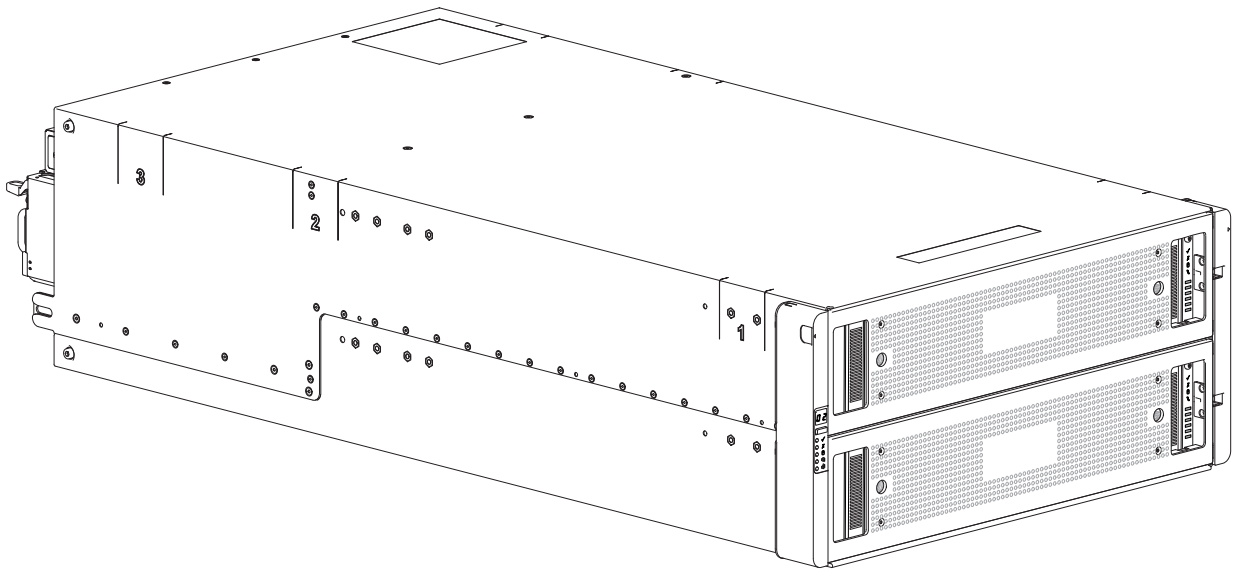
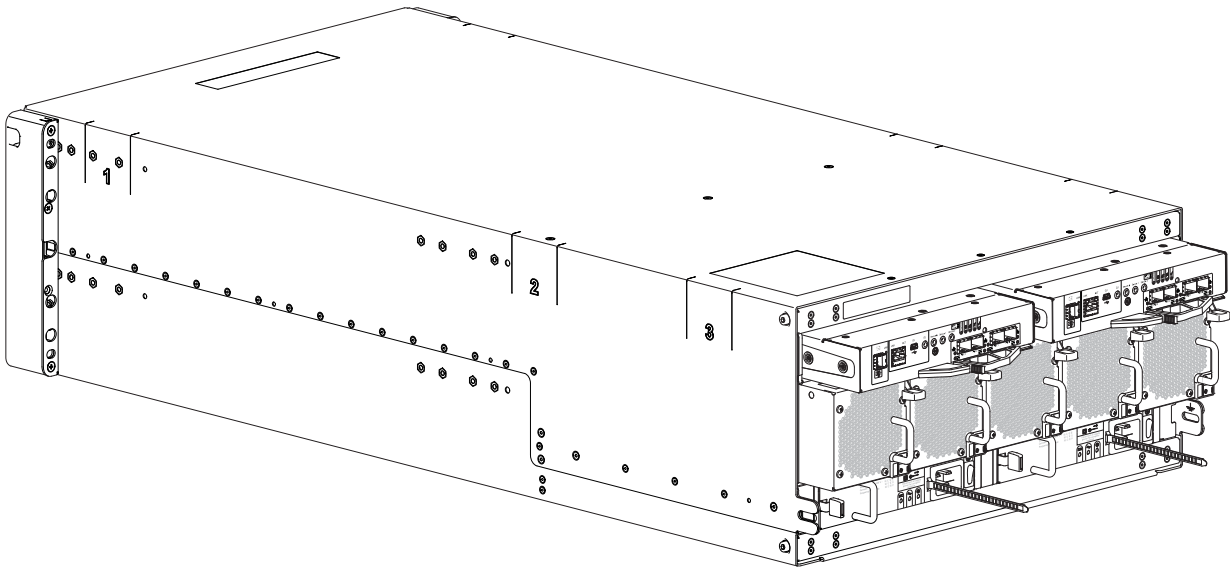

Figure 5 5U84 enclosure system – dimetric front orientation
Figure 6 5U84 enclosure system – dimetric rear orientation
- 5U (rack space) controller enclosure – see Figure 5 \(page 22\) and Figure 6 \(page 22\): holds up to 84 low profile (1-inch high) 3.5" form factor disk drive modules in a vertical orientation within the disk drawer. Two vertically-stacked drawers each hold 42 disks. If used, 2.5" disks require 3.5" adapters.